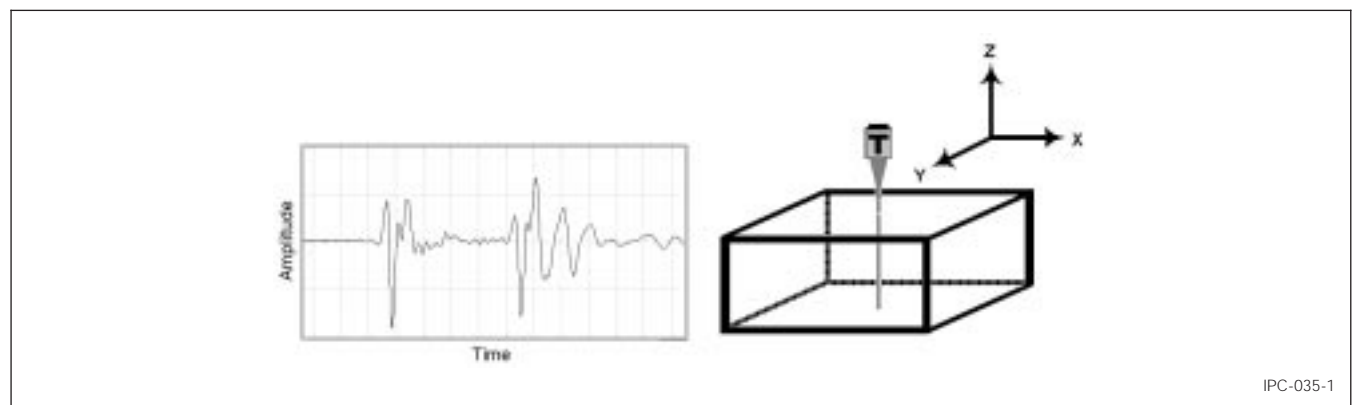
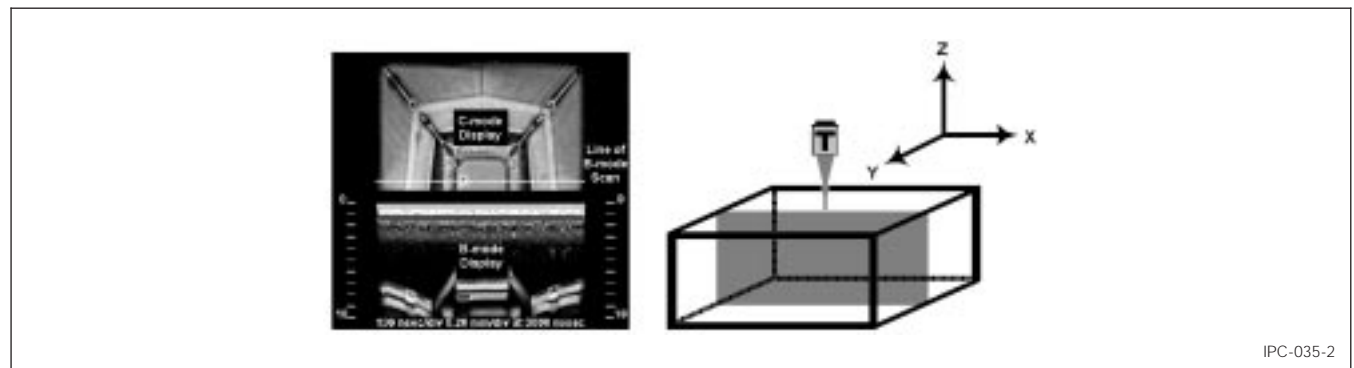

Figure 1 Example of A-mode Display
Figure 2 Example of B-mode Display (bottom half of picture on left)
<p>1 SCOPE..... 1</p> <p>2 DEFINITIONS..... 1</p> <p>2.1 A-mode 1</p> <p>2.2 B-mode 1</p> <p>2.3 Back-Side Substrate View Area 1</p> <p>2.4 C-mode 1</p> <p>2.5 Through Transmission Mode 2</p> <p>2.6 Die Attach View Area 2</p> <p>2.7 Die Surface View Area 2</p> <p>2.8 Focal Length (FL) 2</p> <p>2.9 Focus Plane..... 2</p> <p>2.10 Leadframe (L/F) View Area 2</p> <p>2.11 Reflective Acoustic Microscope..... 2</p> <p>2.12 Through Transmission Acoustic Microscope 2</p> <p>2.13 Time-of-Flight (TOF) 3</p> <p>2.14 Top-Side Die Attach Substrate View Area 3</p> <p>3 APPARATUS..... 3</p> <p>3.1 Reflective Acoustic Microscope System 3</p> <p>3.2 Through Transmission Acoustic Microscope System 4</p> <p>4 PROCEDURE 4</p> <p>4.1 Equipment Setup 4</p> <p>4.2 Perform Acoustic Scans 4</p>	<p>Appendix A Acoustic Microscopy Defect Check Sheet..... 6</p> <p>Appendix B Potential Image Pitfalls 9</p> <p>Appendix C Some Limitations of Acoustic Microscopy 10</p> <p>Appendix D Reference Procedure for Presenting Applicable Scanned Data..... 11</p> <p style="text-align: center;">Figures</p> <p>Figure 1 Example of A-mode Display 1</p> <p>Figure 2 Example of B-mode Display 1</p> <p>Figure 3 Example of C-mode Display 2</p> <p>Figure 4 Example of Through Transmission Display 2</p> <p>Figure 5 Diagram of a Reflective Acoustic Microscope System..... 3</p> <p>Figure 6 Diagram of a Through Transmission Acoustic Microscope System 3</p>
2.1 A-mode Acoustic data collected at the smallest X-Y-Z region defined by the limitations of the given acoustic microscope. An A-mode display contains amplitude and phase/polarity information as a function of time of flight at a single point in the X-Y plane. See Figure 1 - Example of A-mode Display.
2.2 B-mode Acoustic data collected along an X-Z or Y-Z plane versus depth using a reflective acoustic microscope. A B-mode scan contains amplitude and phase/polarity information as a function of time of flight at each point along the scan line. A B-mode scan furnishes a two-dimensional (cross-sectional) description along a scan line (X or Y). See Figure 2 - Example of B-mode Display.